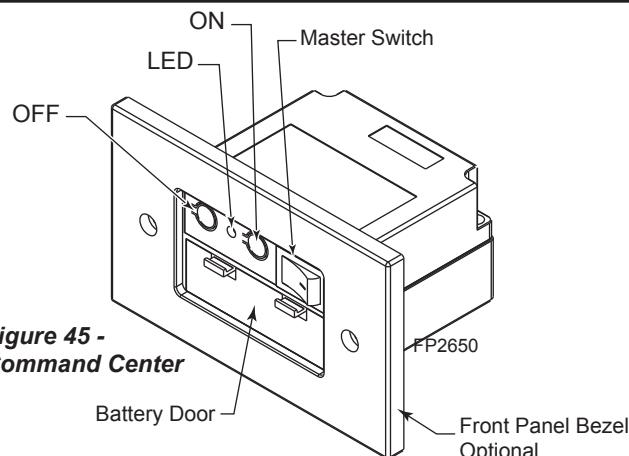

Figure 45 - Command Center
1. The RF receiver button on the control board in the fireplace must be in the on position before the learn function can begin. Figure 45. With the Command Center master switch in the ON position, use paper clip to depress the recessed button on Control Board, one beep for RF receiver ON or two beeps for RF receiver OFF.